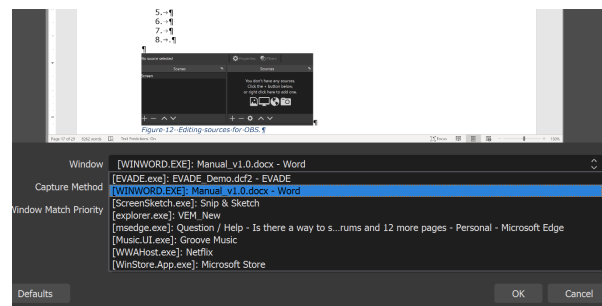

Figure 16 Choosing a window to record.
4. Add a Window Capture Source by clicking on the “+” and then Window Capture. This will allow you to choose a window from which to capture the action. You will be given the option to choose a window to record (Figure 16). Here you can choose EVADE. You may need to close and reopen EVADE for it to be acknowledged by OBS.